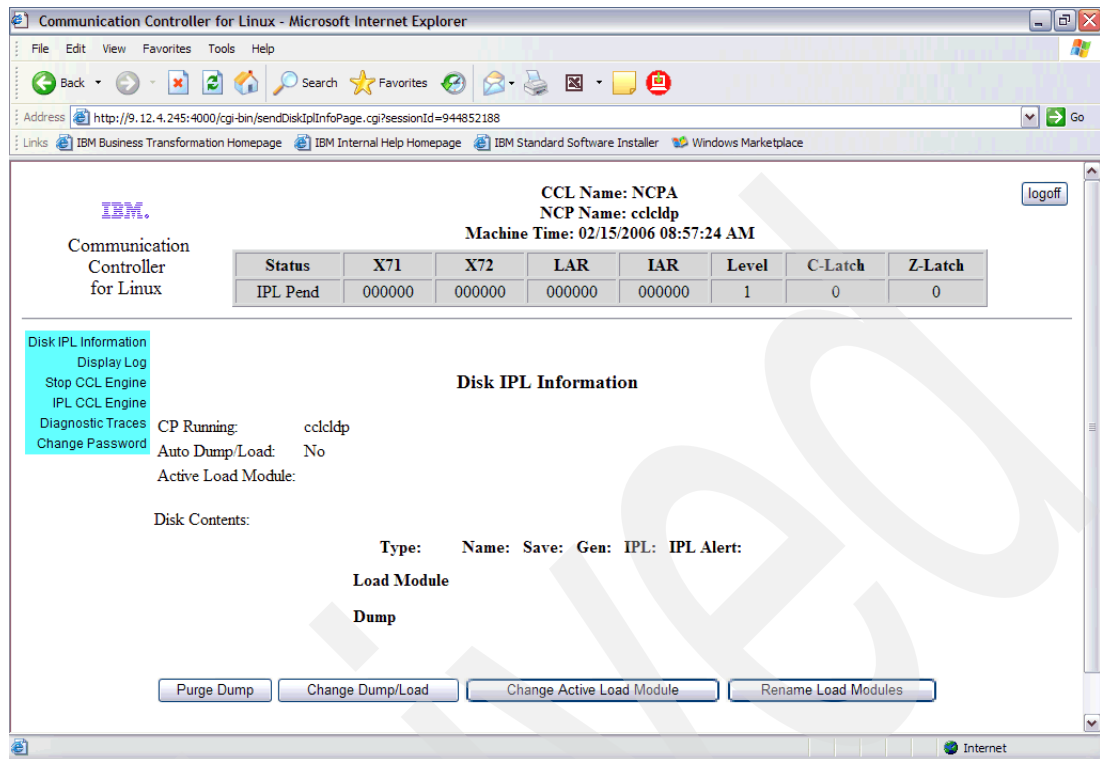

Figure 4-7 Initial Disk IPL information
2. When we started CCL with cclcdp, we connected to the CCL MOSS console using a Web browser, targeting our Linux on System z IP address:port (9.12.4.245:4000). Then we entered the MOSS password and displayed the Disk IPL information, as shown in Figure 4-7.